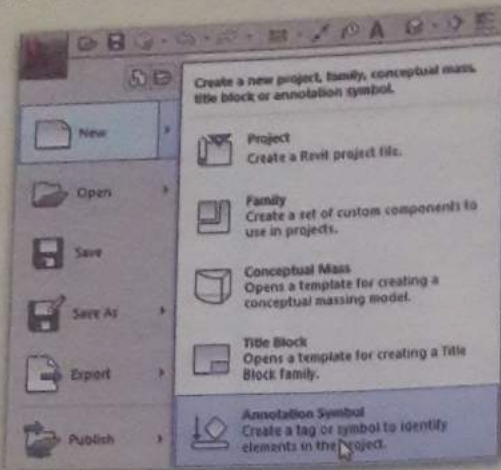

Figure 13: Opening Annotation symbol file.
1. Application menu » New » Annotation Symbol » Metric Level Head (Figure 13).